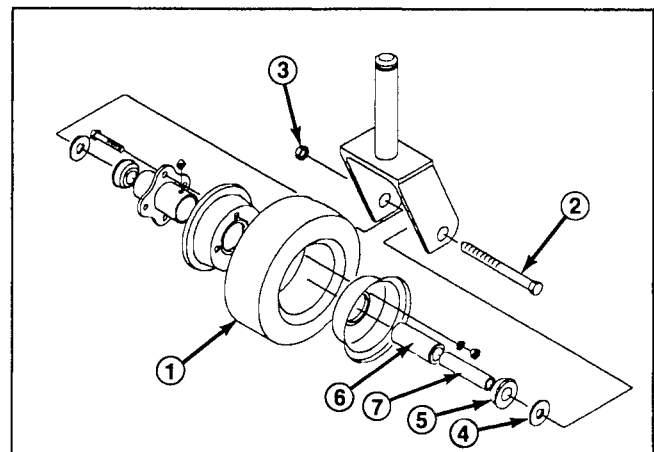

Figure 11
1. Remove locknut from capscrew holding castor wheel assembly between castor fork (Fig. 11). Grasp castor wheel and slide capscrew out of fork.
Note: Account for the two flat washers (Fig. 11).
2. Tip wheel to the side and allow roller bearing and spanner bushing to fall out (Fig. 11).
- Pump more grease through grease fitting on wheel (Fig. 11) until bearing is greased thoroughly.